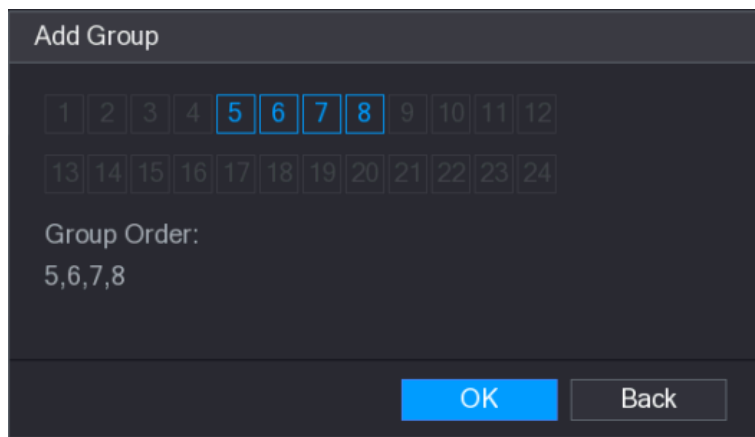

Figure 5-50
**Step 2** Select the channels that you want to group for tour. See Figure 5-50.